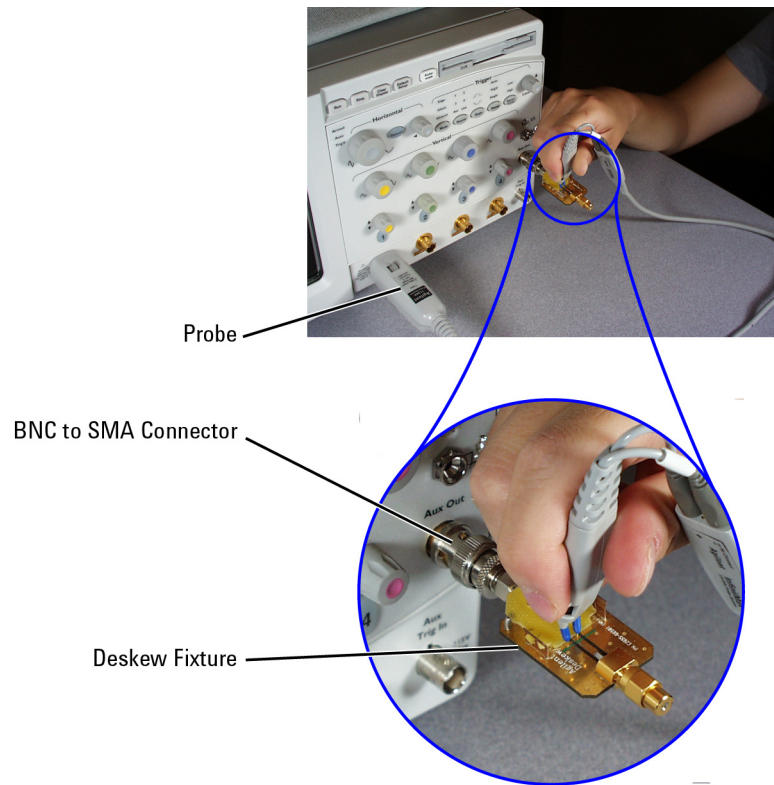

Figure 112 Placing the Probe on the Fixture
- 1 As shown in **Figure 112** on page 136, connect BNC (male) to SMA (male) adapter to the deskew fixture on the connector closest to the yellow pincher.